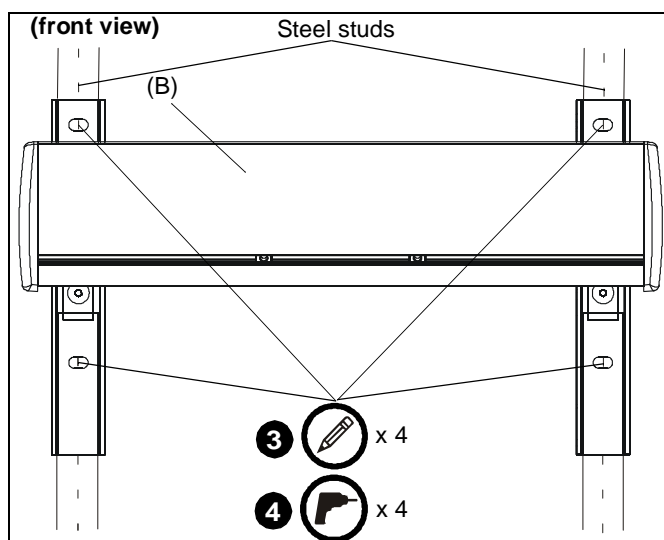

Figure 8
2. Line up four holes on wall bracket with center of studs at desired mounting location. (See Figure 8)
3. Using wall bracket as a template, mark four holes at the inner four holes in bracket. (See Figure 8)
4. Drill four 1/2" holes at marked locations in wall. (See Figure 8)